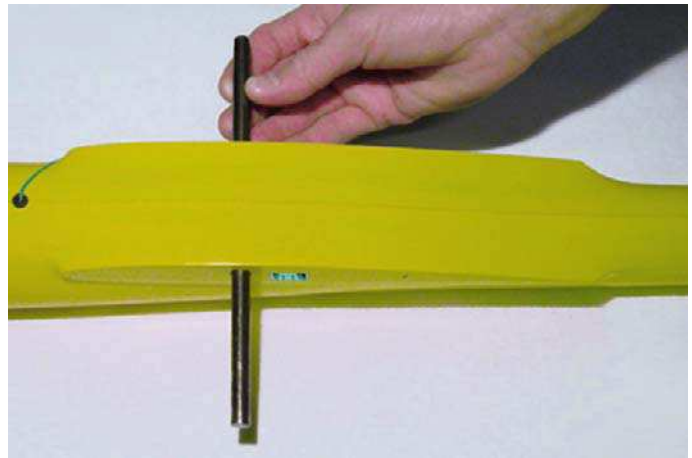

Fig.132: Insert the wing rod.
- Insert the wing rod “BAIO” into its housing (see figure 132);